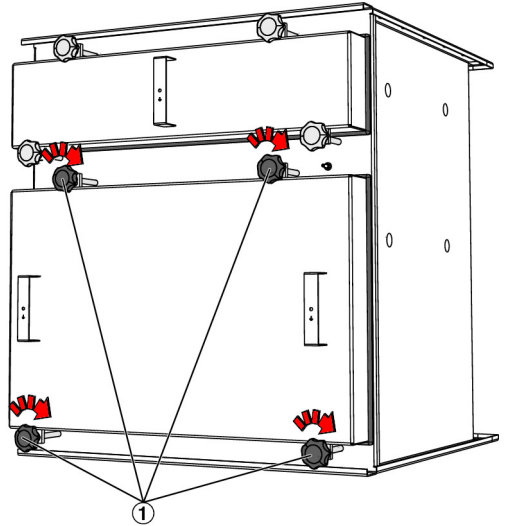

Fig. 14: Closing the casing
12. ▶ Place the cover on the filter casing, and tighten the star knob screws (Fig. 14/1) hand-tight.
- 15. ▶ Close the casing, Fig. 14.